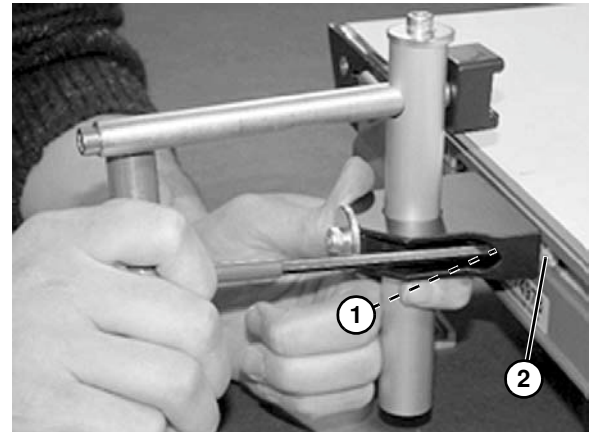

Figure 17
2. Tighten screws (**Figure 17, item 1**) making sure t-nut (**Figure 17, item 2**) rotates and engages inside of the t-slot.